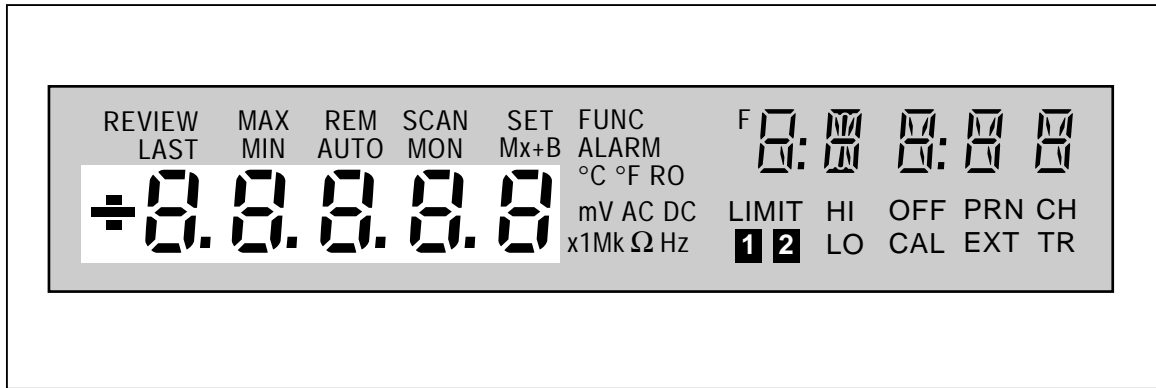

Figure 2-3. Left Display
- A major numeric chapter (called the Left Display). See Figure 2-3.